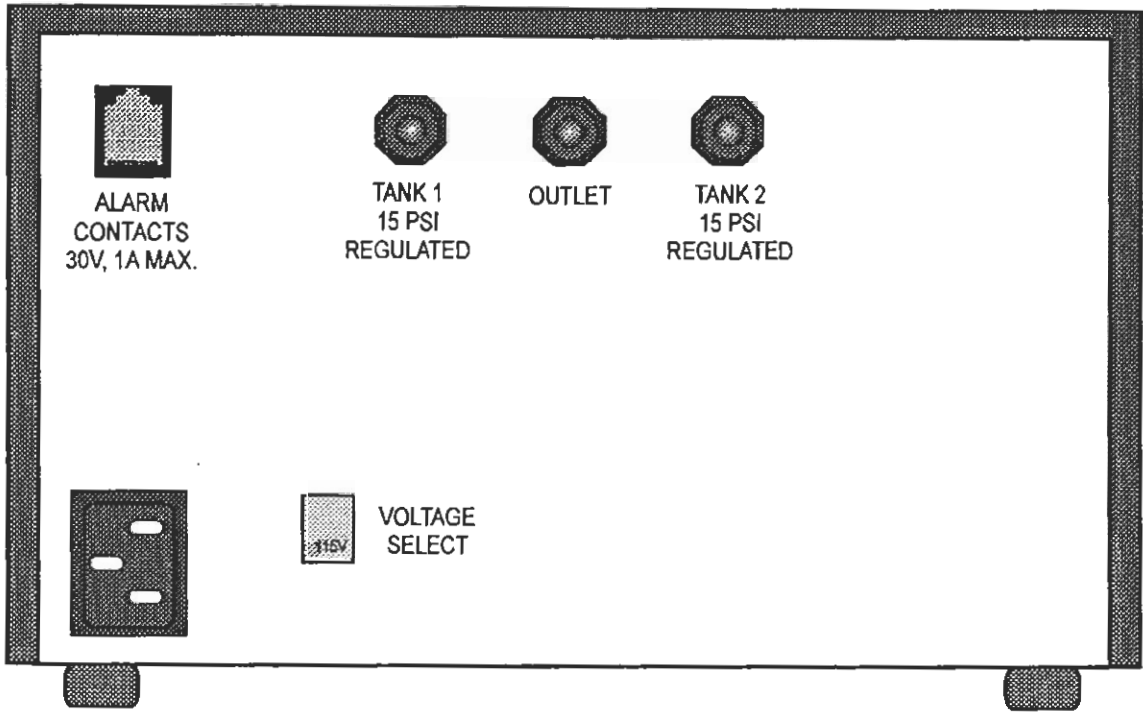

Figure 3-1
Connect a regulated gas supply to each of the two inlet fittings located on the back of the unit. The fittings are labeled. Refer to Figure 3-1. Check the connections for leaks.
The gas outlet is located between the inlet fittings. Refer to Figure 3-1. Connect the supply tubing to the barbed outlet and connect the other end to the incubator or other piece of equipment requiring a gas supply. Check the gas outlet for a possible leak.
4.6 Voltage Select Switch (refer to Figure 3-1)
4.7 Remote Alarm Contact (refer to Figure 3-1)